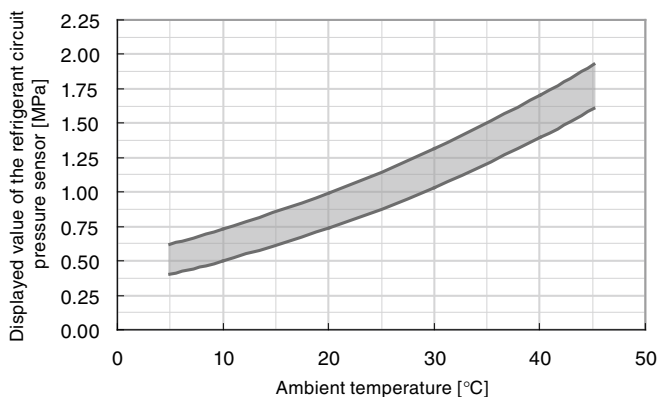

Fig. 4-49 Ambient temperature and refrigerant circuit pressure
- (1) Leave the Thermo-Chiller not operating for 24 hours to make the ambient temperature and the temperature inside the Thermo-Chiller the same.
- (2) Check the ambient temperature.
- (3) Check the “Ph: Refrigerant circuit pressure on the high pressure side” value in the “Check Monitor Menu”.
- (4) Check if the value at the cross point of the ambient temperature and the “Ph: Refrigerant circuit pressure on the high pressure side” value is within the range (the shaded part) in Fig. 4-49. If the cross point is within the range, it means that the pressure sensor is operating correctly.